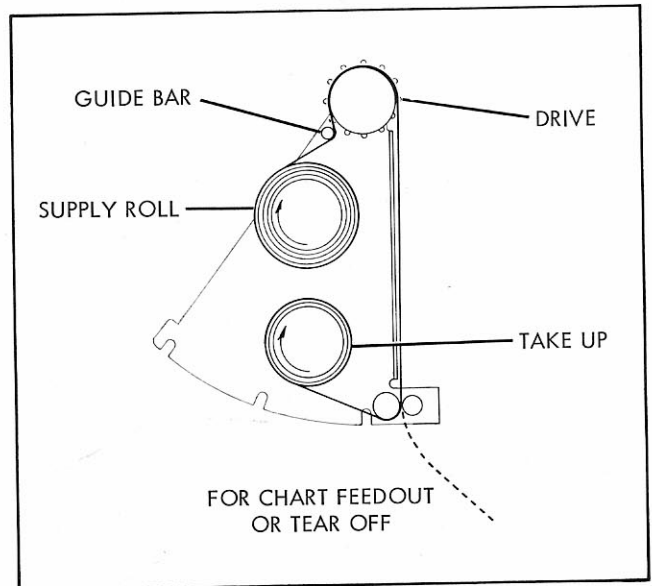

FIGURE 3-5. CHART LOADING DIAGRAM
- c. Load paper. Before replacing chart magazine install a roll of 6" width graph paper as follows: (Refer to figure 3-5)
- (1) Position the empty chart magazine as indicated in figure 3-5.
- (2) Insert the supply roll between the upper spring loaded hubs with the elongated drive holes of the paper to the right.
- (3) Thread paper from the new supply roll under the guide bar.
- (4) Bring the paper over the top of the sprocket drive drum and engage the sprockets.
- (5) Pull the paper down across the face of the chart magazine and feed through the slot at the bottom of the platen.
(6) Rotate the drive gear so that the paper will feed through the slot.
(7) The paper will now feed out through the bottom of the chart magazine and may be torn off as the operator desires. If this type of operation is desired, the chart paper magazine may be installed in the recorder. For operation with the chart stored on a take-up spool within the chart magazine, continue with steps 8 and 9.
(8) Install an empty takeup spool (supplied) between the two lower hubs. Index the left end of the spool so the drive stud on the left hub mates with the slot on the takeup spool.
(9) Attach the end of the chart paper on the takeup spool with adhesive tape. Rotate the drive gear until several turns of paper are on the take-up spool. Inspect for proper chart tracking without buckling and then install the chart magazine.